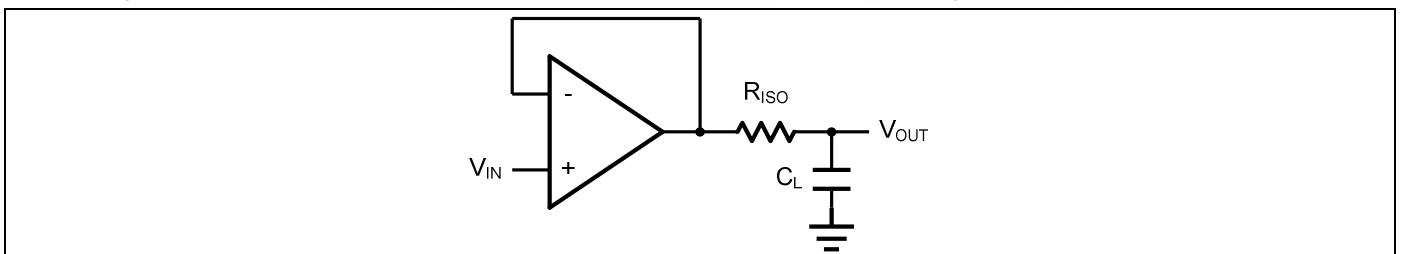
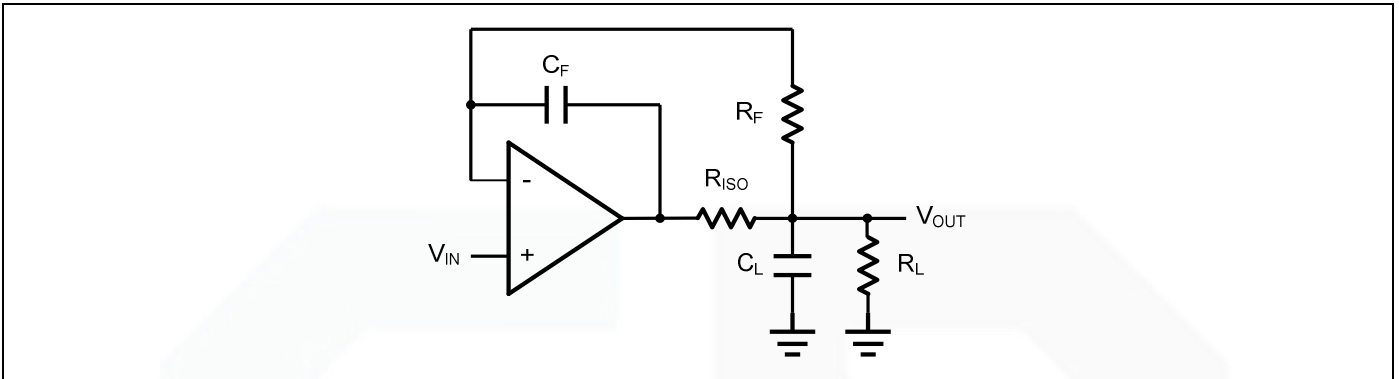

Figure 2. Indirectly Driving a Capacitive Load Using Isolation Resistor
Figure 3. Indirectly Driving a Capacitive Load with DC Accuracy
The LMV321/358/324 family is optimized for bandwidth and speed, not for driving capacitive loads. Output capacitance will create a pole in the amplifier's feedback path, leading to excessive peaking and potential oscillation. If dealing with load capacitance is a requirement of the application, the two strategies to consider are (1) using a small resistor in series with the amplifier's output and the load capacitance and (2) reducing the bandwidth of the amplifier's feedback loop by increasing the overall noise gain. Figure 2. shows a unity gain follower using the series resistor strategy. The resistor isolates the output from the capacitance and, more importantly, creates a zero in the feedback path that compensates for the pole created by the output capacitance.
The circuit in Figure 3 is an improvement to the one in Figure 2.  $R_F$  provides the DC accuracy by feed-forward the  $V_{IN}$  to  $R_L$ .  $C_F$  and  $R_{ISO}$  serve to counteract the loss of phase margin by feeding the high frequency component of the output signal back to the amplifier's inverting input, thereby preserving the phase margin in the overall feedback loop. Capacitive drive can be increased by increasing the value of  $C_F$ . This in turn will slow down the pulse response.